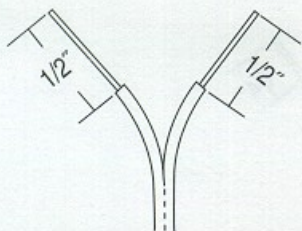

Figure 3-1
- Step 2** • REMOVE 1/2" of insulation from the garage door opener end of the wire. (Figure 3-1)